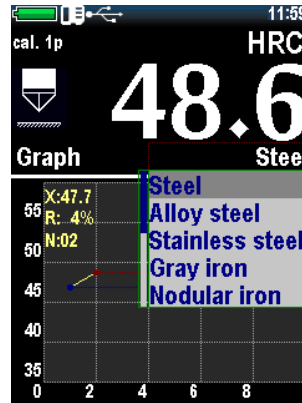

Figure 2.7 – Material selection
6. Select the material that is going to be tested. By pressing **<MATERIAL>** open the selection menu (fig. 2.7), with the keys **<↑>** and **<↓>** select the desired material (steel, alloy steel, stainless steel, gray iron, ductile iron (< Nodular Iron>), aluminum, brass, bronze, copper, a user (<USER. 1>, <USER. 2>).